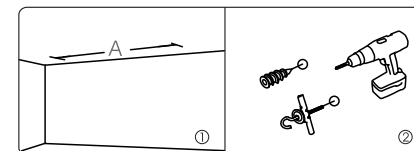

Figure 13
1. Drill two identical holes with an electrical drill and ensure it is horizontal with the Wall. Fasten hangers (not provided) into the ceiling (figure 13).